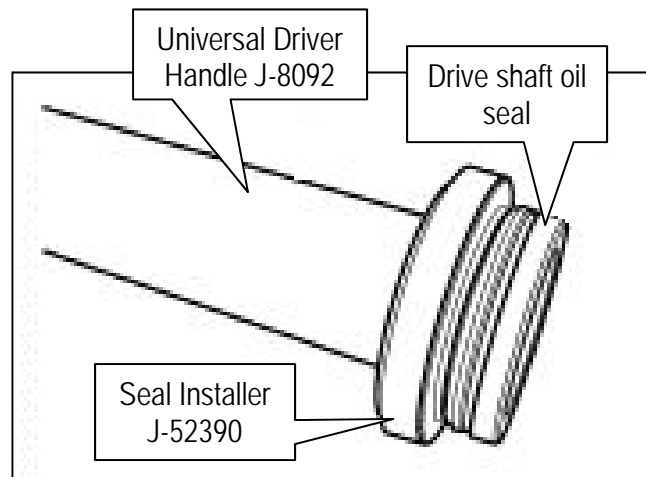

Figure 6
- a. Install the new drive shaft oil seal onto Seal Installer J-52390 (Figure 6).